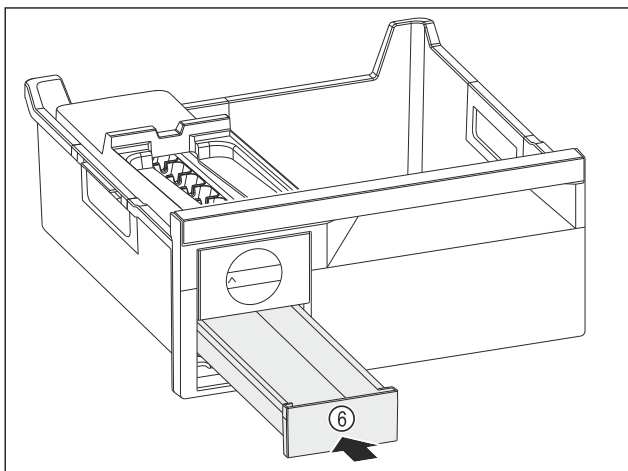

Fig. 116
- ▶ Insert the ice cube tray Fig. 116 (6).